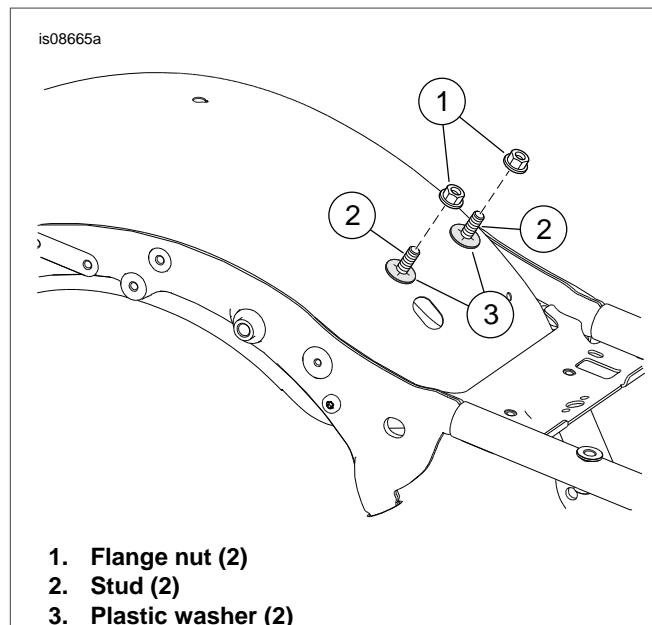
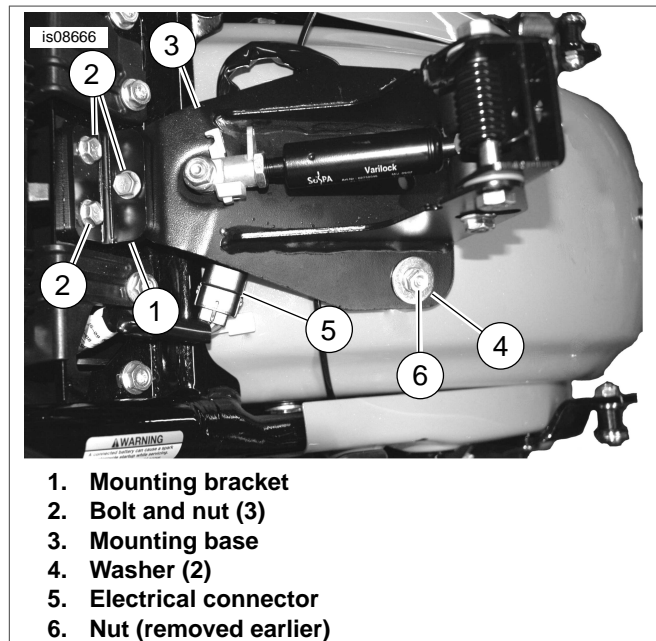

Figure 1. Mounting Hardware
Figure 5. Install Backrest Bracket
3. See Figure 1. Remove nuts (1). Leave washers (2) and studs (3) in place.
3. See Figure 5. Set mounting bracket (1) over studs and plastic washer See Figure 1. Install screws and nuts (2) as shown. Leave fasteners loose. Verify electrical connector moves freely.
4. Install washers (4) and nuts (6). Tighten to 60-96 **in-lbs** (7-11 Nm).
5. Tighten screws and nuts (2) 6-8 ft-lbs (8-11 Nm).